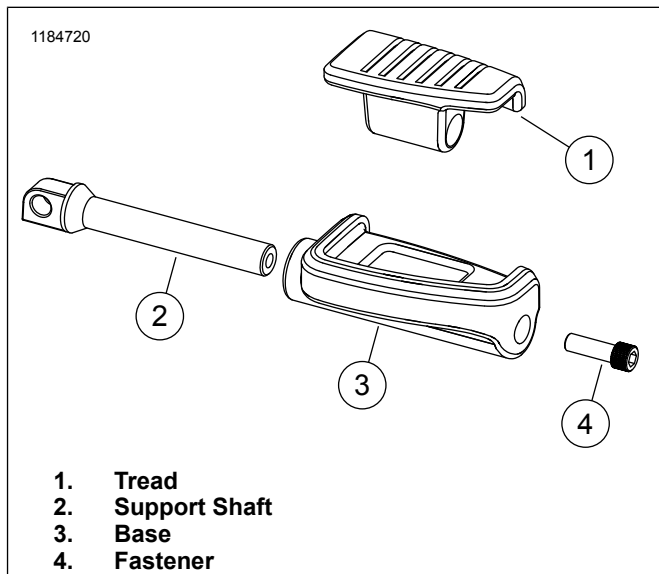

Figure 4. Mini-Footboard Kits: 50501148, 50501225
- For Kit 50501148, see Figure 4 and Table 1. Fastener (2) 10500147 (chrome) are available service parts.
- For Kit 50501225, see Figure 4 and Table 1. Fastener (2) 10500125 (black) are available service parts.